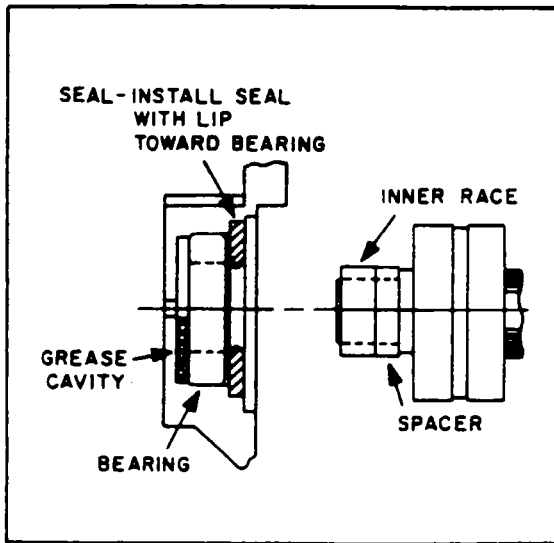

Figure 11-32. Slip Ring End Bearing Assembly
- e. Install the slip ring end bearing and oil seal. Make sure the lip of the oil seal is toward the bearing. Stake the seal in place. Correct assembly of bearing, seal, inner race and spacer as shown in Figure 11-32.)